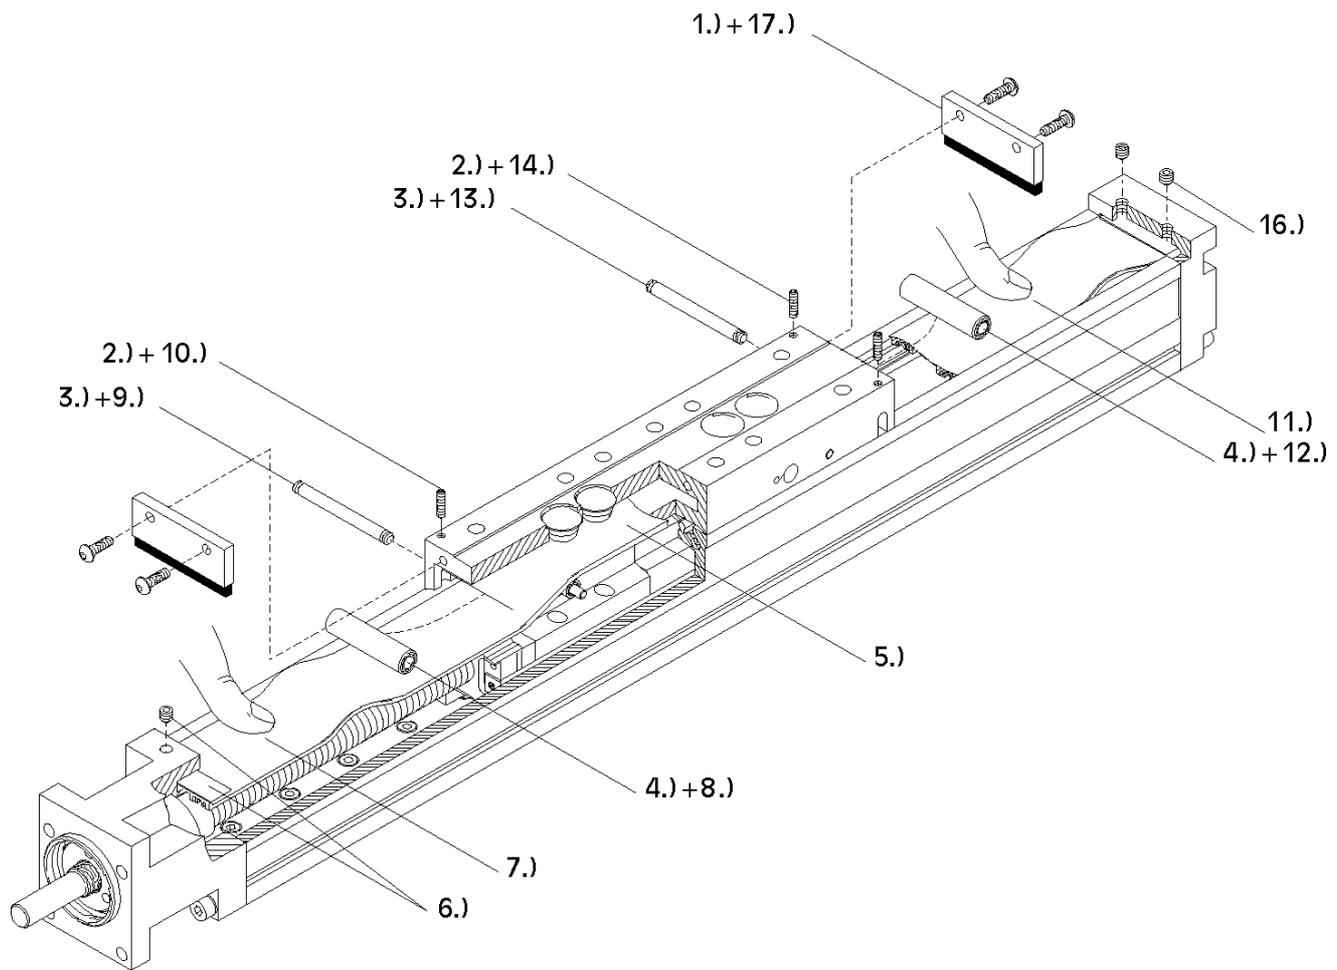

Fig. 16
1. Fig. 16: Remove both scraper brushes.